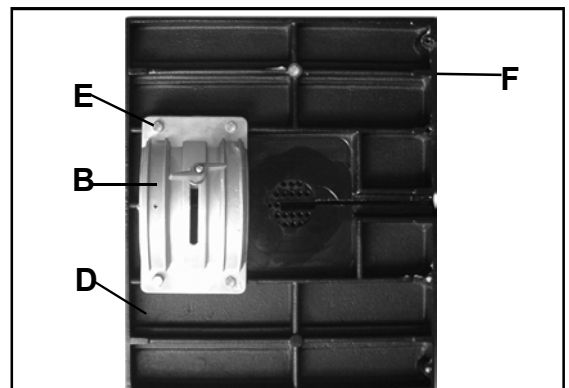

Fig. 03
Install the upper table trunnion casting (B) to the underside of the bandsaw table (D) using the four M8 x 16 hex head set screws (E) and washers, ensuring that the angle tilt scale is closest to the edge of the table. (See Fig.03)